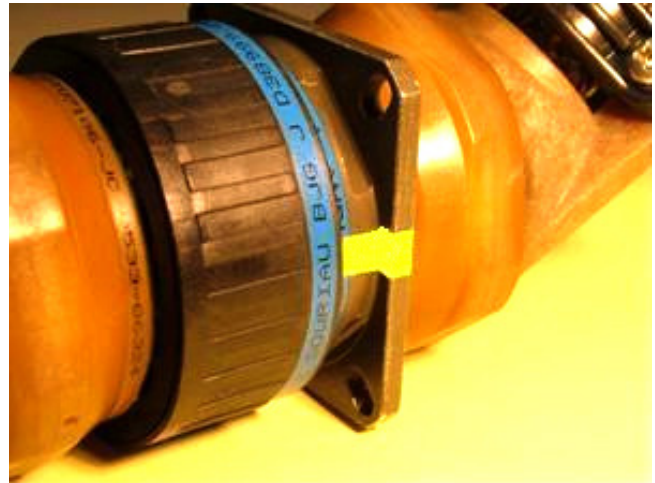

Figure 44. Applied Yellow Stripe For Condition One
e. If the red band is found to be mislocated (greater than 13.2 mm or .519 in.) then the connector requires to be marked with a yellow stripe on the receptacle only (Figure 44).
i. Marking. For both conditions, the stripe shall be .13-.25 inches wide, perpendicular to the red band and shall extend from approximately the edge of the red band to the mounting flange (If present) extending outward to the edge of mounting flange (If present) as shown in Figure 44. If no mounting flange is present, the stripe shall extend from the receptacle .50 inches max.